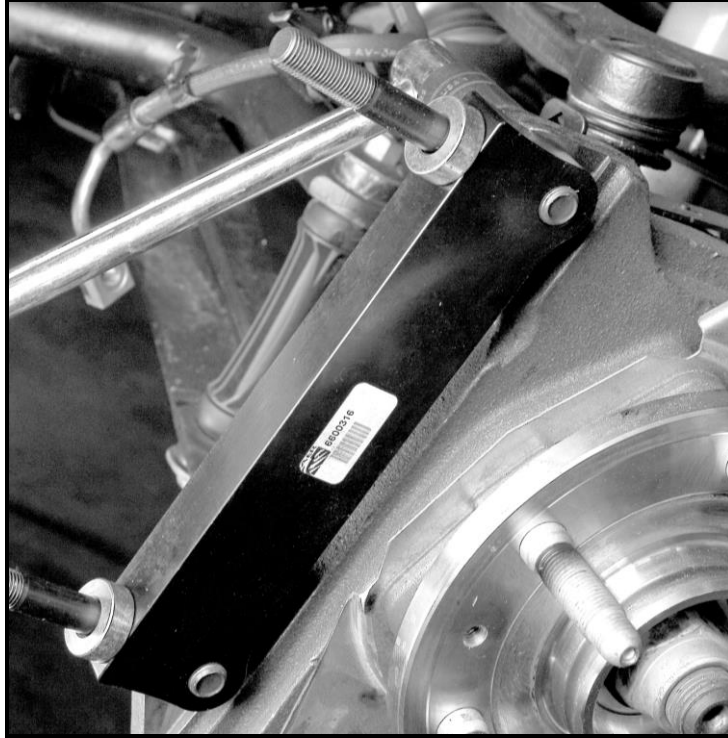

Figure 2: Caliper bracket installed with spacers in place
5. Install the intermediate bracket to the spindle using the original caliper bolts. The flat side of the bracket will face outboard and mount to the outboard side of the spindle. The relief cut into the bracket will face the spindle (inboard side). Check for necessary clearance. Be sure that the 0.400" spacers are in place on the ARP caliper studs. Torque both bolts to 110 ft-lbs. See Figure 2 for reference.